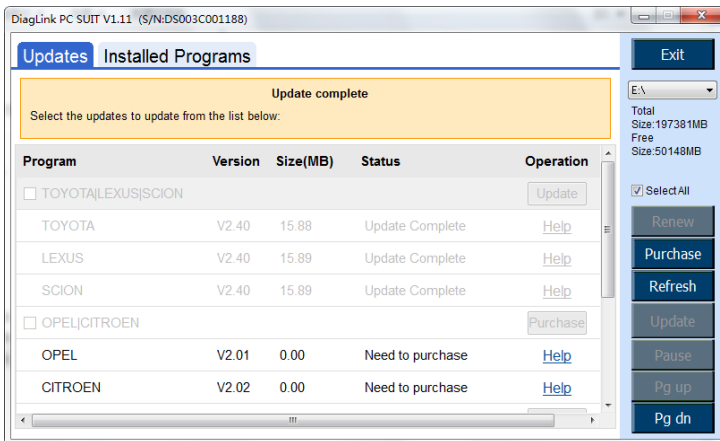

Figure 10.9
- 9) When the installation is completed (Figure 10.9), you can click **Purchase** button on the right side of screen to update other desired items on <http://pro.auteltech.com/>.